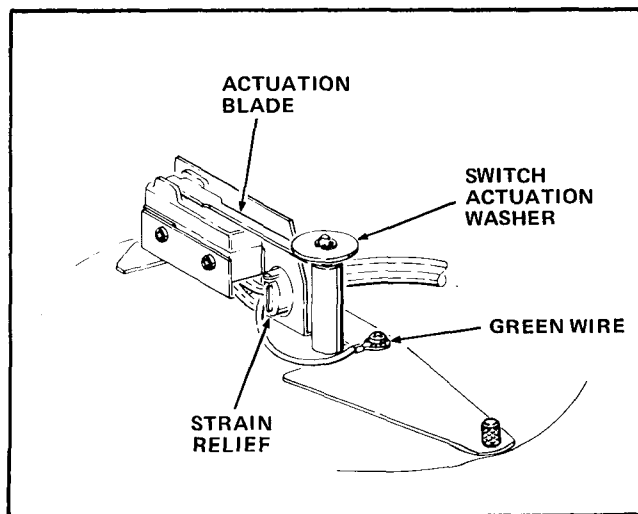

FIGURE III-3
2. Be sure the Actuation Blade on the Ice Level Switch is under the Switch Actuation Washer on the Cover Assembly. See Figure III-3.